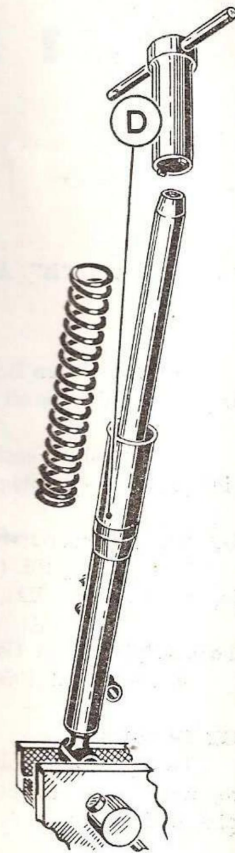

Fig. X2.
To dismantle the lower section of the fork hold the fork sliding tube by gripping the wheel spindle lug in a soft jawed vice and lift off the spring (see Fig. X2).
Enter Service Tool part number 61-3005 until the dogs on the tool engage in the slots at the bottom of the oil seal holder (D) Fig. X2. Pressing the tool down and turning at the same time unscrew the oil seal holder. Slide the holder up the shaft until it becomes tight on the tapered section of the shaft. Do not use excessive force or the oil seal may be damaged.